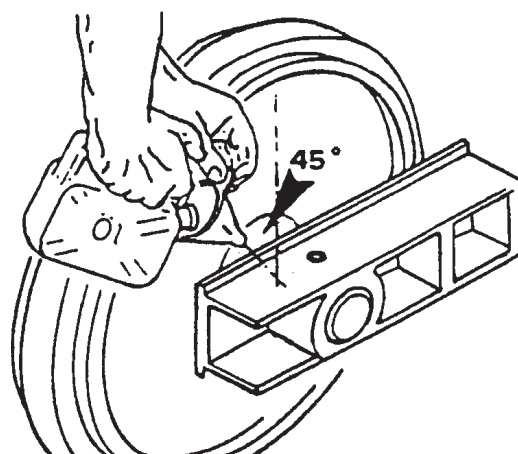

Fig. 3-61 Oil Fill Position
7. Position the idler wheel so the fill plug is 45° from vertical as shown in fig. 3-61. Remove plug using a 6mm allen wrench and fill the idler wheel with SAE 90 oil until it runs out the hole. Install plug and tighten.